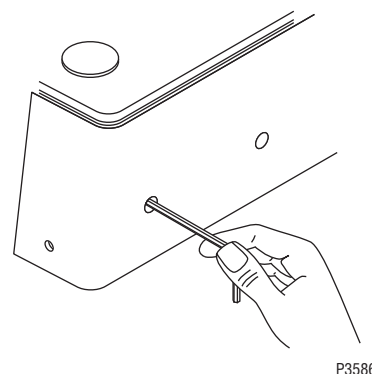

FIG 8 Adjusting Water Flow Using 1/4" allen wrench
5. Adjust the water flow rate Fig 8, (clockwise to increase flow rate; counterclockwise to decrease flow rate) to the corresponding product mix ratio as follows: